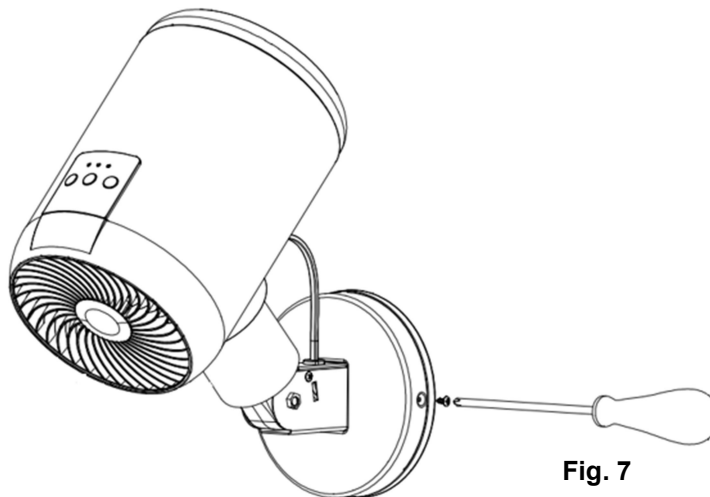

Fig. 7
- Install the fan assembly onto the mounting bracket and secure it by tightening the screws on the side. (Fig.7)